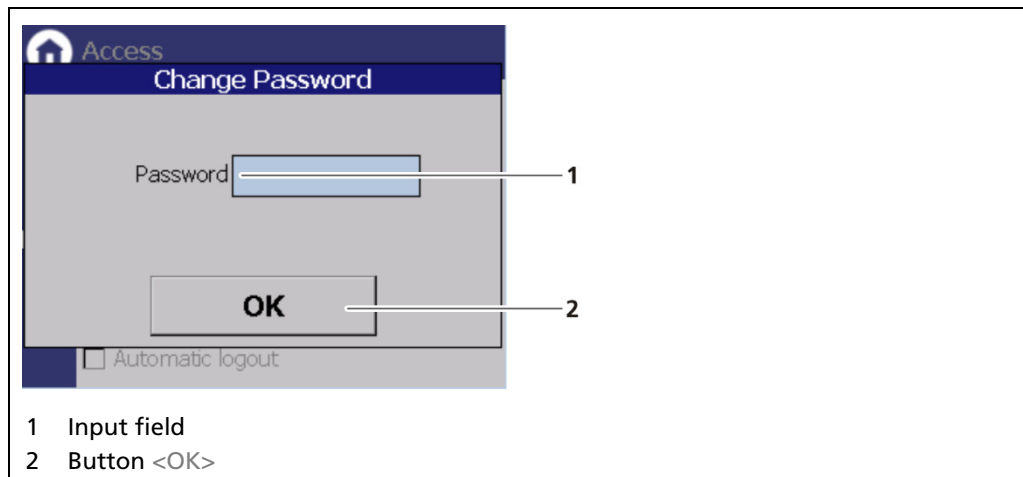

Fig. 26 Change password
Activating the selection box (Fig. 26, item 1) automatically resets the access level Standard to "Basic" when the system changes to the standard display after the timeout (chapter 7.3.1).
To set or change a password, select "Standard" (Fig. 26, item 4) and click on <Change password> (Fig. 26, item 2) to open the input field.